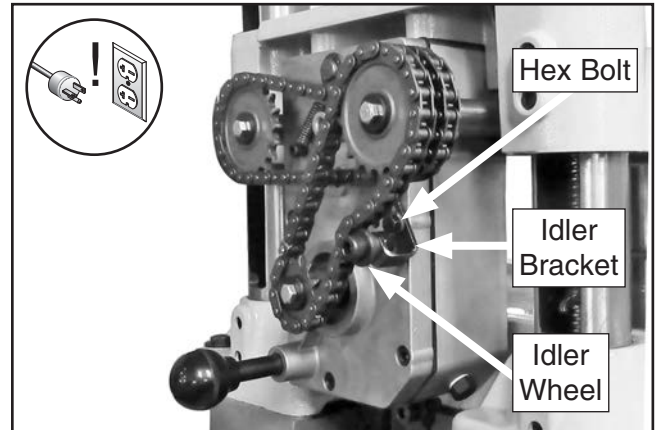

Figure 52. Drive chain adjustment.
2. Remove gearbox cover to access drive chain components (see **Figure 52**).
3. Loosen hex bolt (see **Figure 52**) that secures idler bracket to gearbox, then push idler wheel against chain with moderate pressure to eliminate slack in chain. While maintaining pressure on idler wheel, tighten hex bolt (see **Figure 52**).